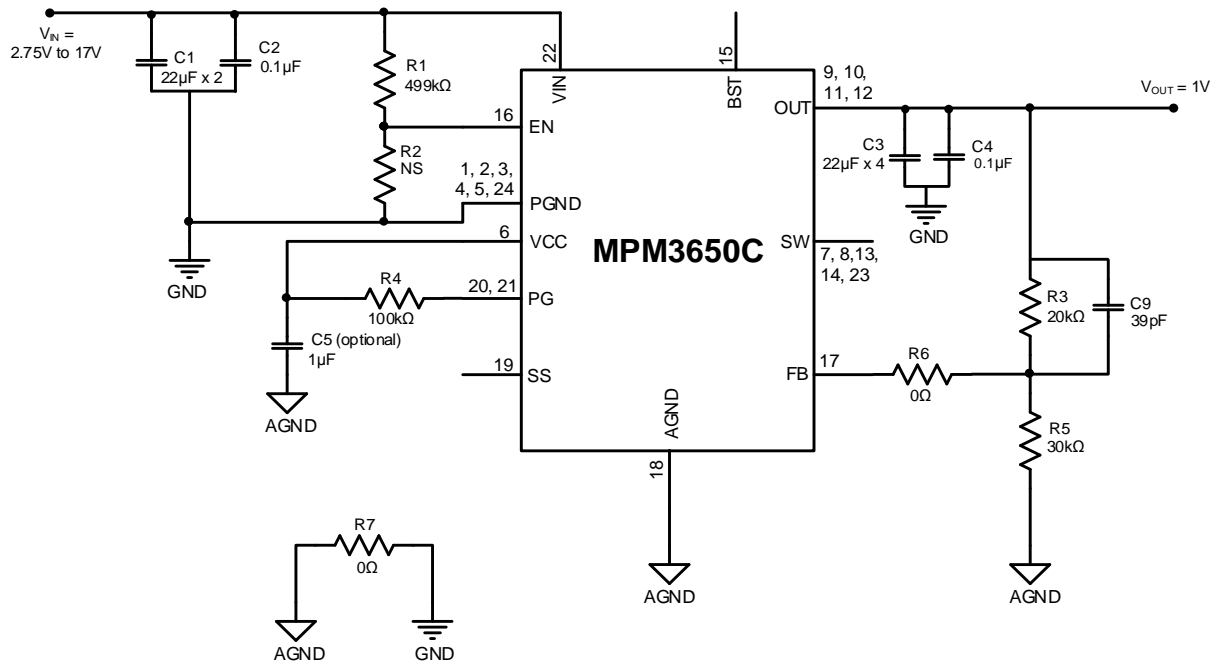

Figure 7: Typical Application Circuit (1V Output)
- 7) The recommended layout is based on Figure 7 (see the Typical Application Circuits section on page 17).